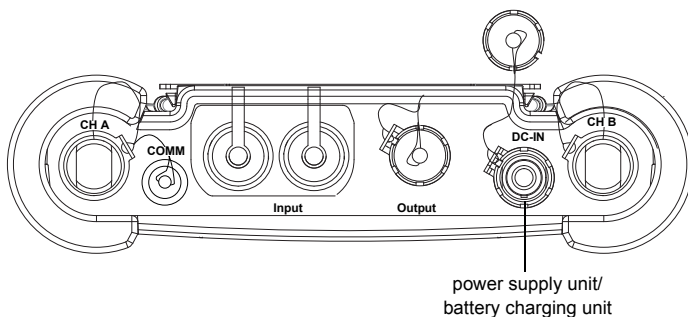
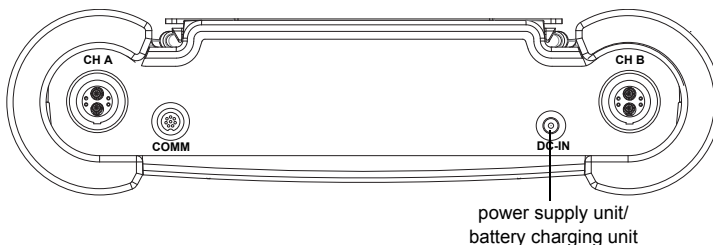

Fig. 7.11: Connections of the transmitter FLUXUS F608
Fig. 7.12: Connections of the transmitter FLUXUS F608\*\*-F2
- Connect the power supply unit to the transmitter (see Fig. 7.11 or Fig. 7.12).